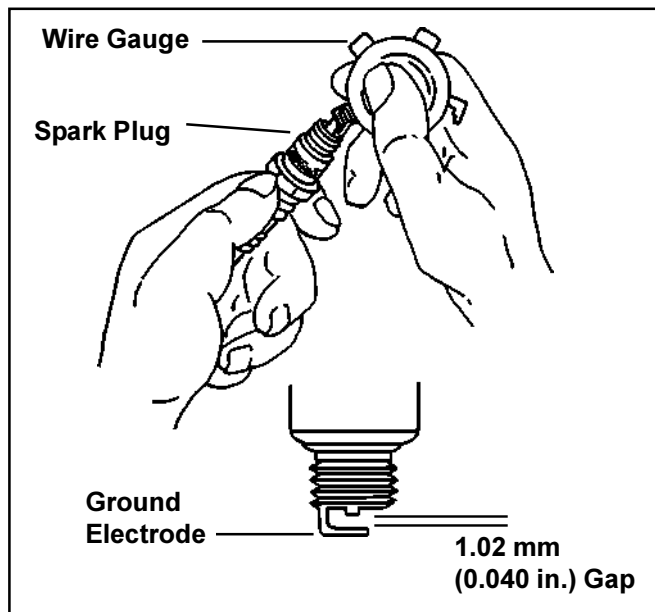

Figure 9. Servicing Spark Plug.
3. Check the gap using a wire feeler gauge. Adjust the gap to **1.02 mm (0.040 in.)** by carefully bending the ground electrode. See Figure 9.